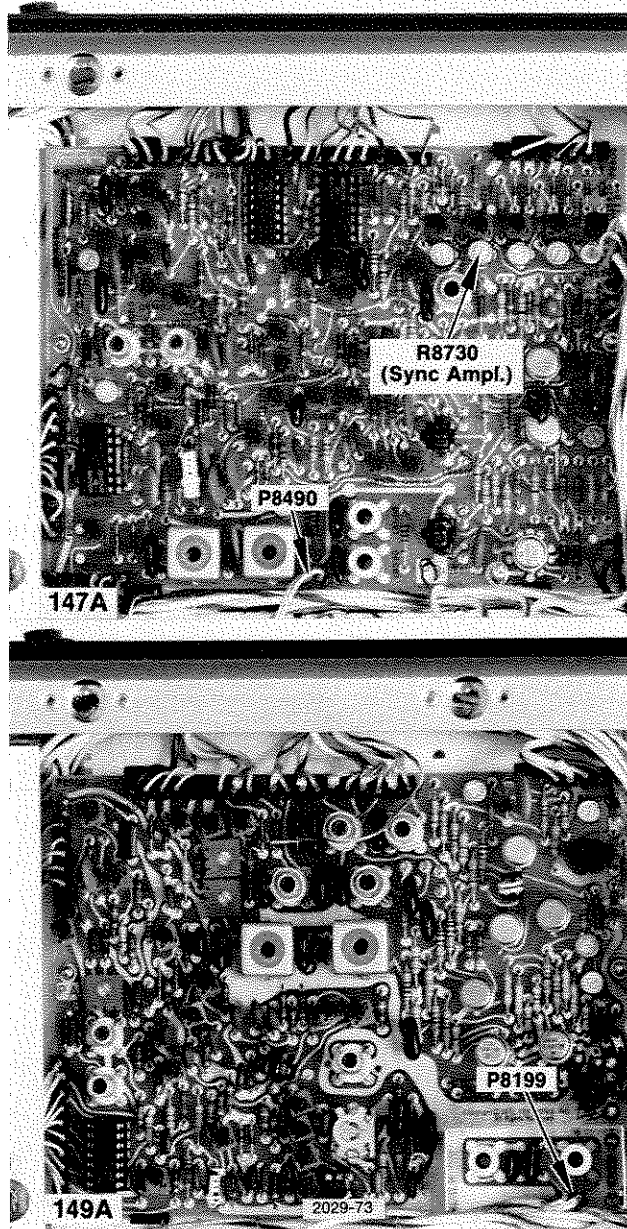

Fig. 3-5. 147A Modulator circuit board locations of P8490 and Sync Ampl. adjustment, and 149A Modulator circuit board showing the location of P8199.
Disconnect P8490 of the 147A or P8199 of the 149A (see Fig. 3-5) to remove chrominance from the signal during this part of the procedure.
**ADJUST**—R8730 (Sync Ampl), see Fig. 3-5, so the sync and pedestal exactly overlay ( $-40$  IRE).